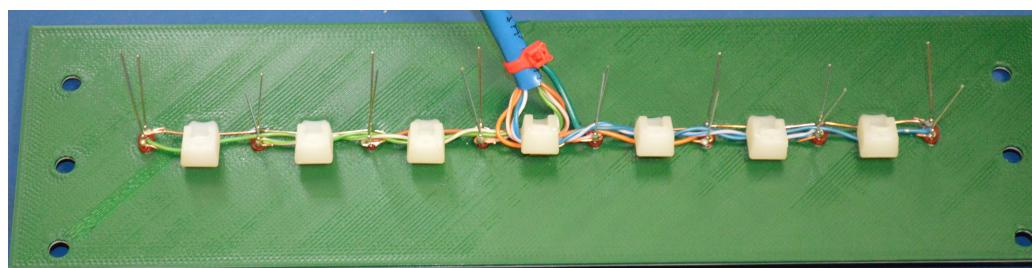

Figure 2.15: The Completed Panel
- Find a place to solder the ground/return wire from the connector to the bare LED ground/return wire. See Figure 2.15.
- Complete the other side of the panel. See Figure 2.15.